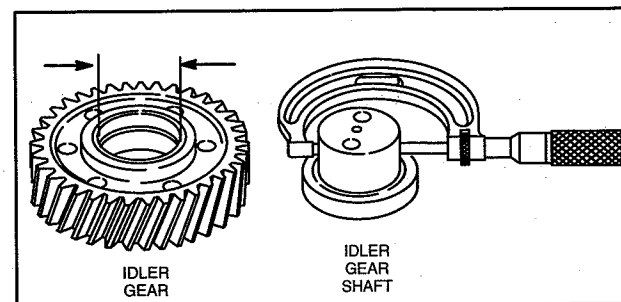

Fig. 7 - Checking Idler Gear And Shaft
2. If backlash exceeds 0.2 mm (.008") check idler gear bearing and shaft for wear, Fig. 7.